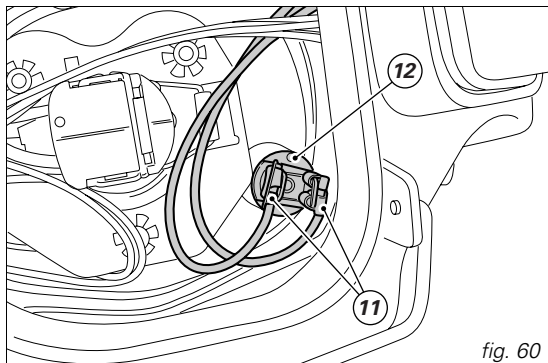

fig. 60
Disconnect the connectors (11) from the terminals (fig. 60). Remove the parking light bulb (12) from its holder and fit a new one of the same rating.